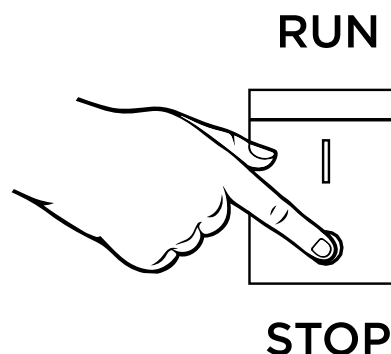

Figure 13 - Move engine switch to STOP
3. Position the engine control switch to **STOP** or if you plan to store the generator after use, turn the fuel shutoff valve to the **OFF** position and allow the fuel to be consumed from the carburetor. (see figure 13)